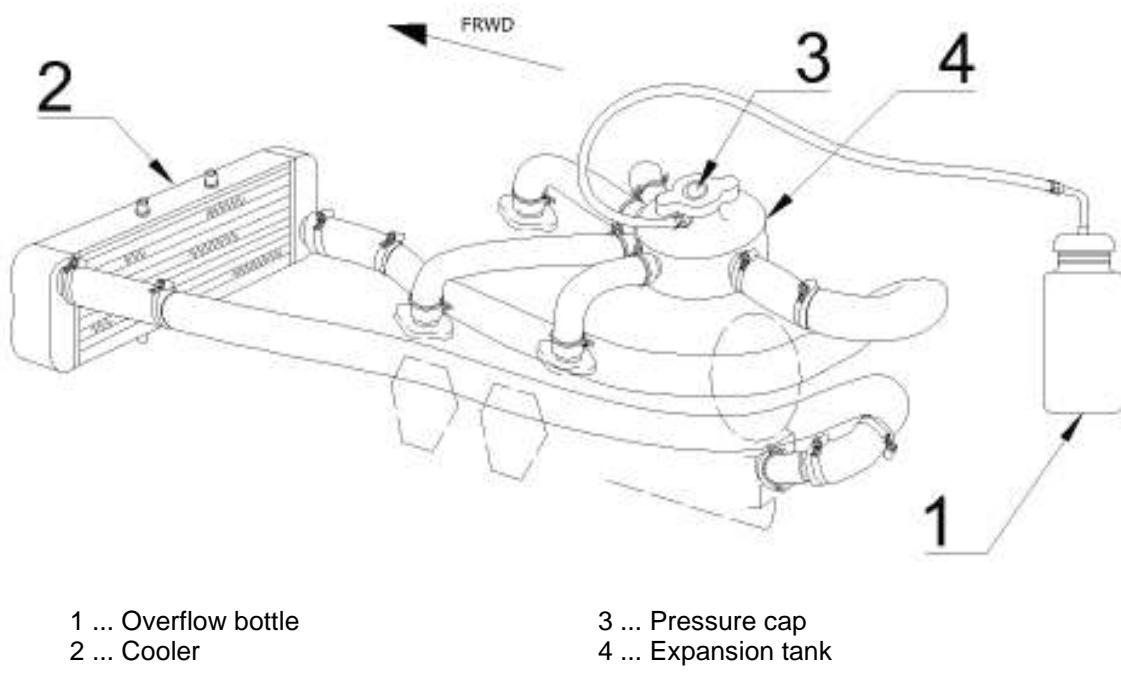

Fig. 10-3: Cooling system
Engine cooling is combined, cylinder heads are liquid cooled, cylinders are air cooled. Cooling circuit of cylinder heads is made as a closed system containing the pump, expansion tank (4) with the pressure cap (3), radiator (2) and the overflow bottle (1). The scheme of cylinder head cooling system is shown in the Fig. 10-3.